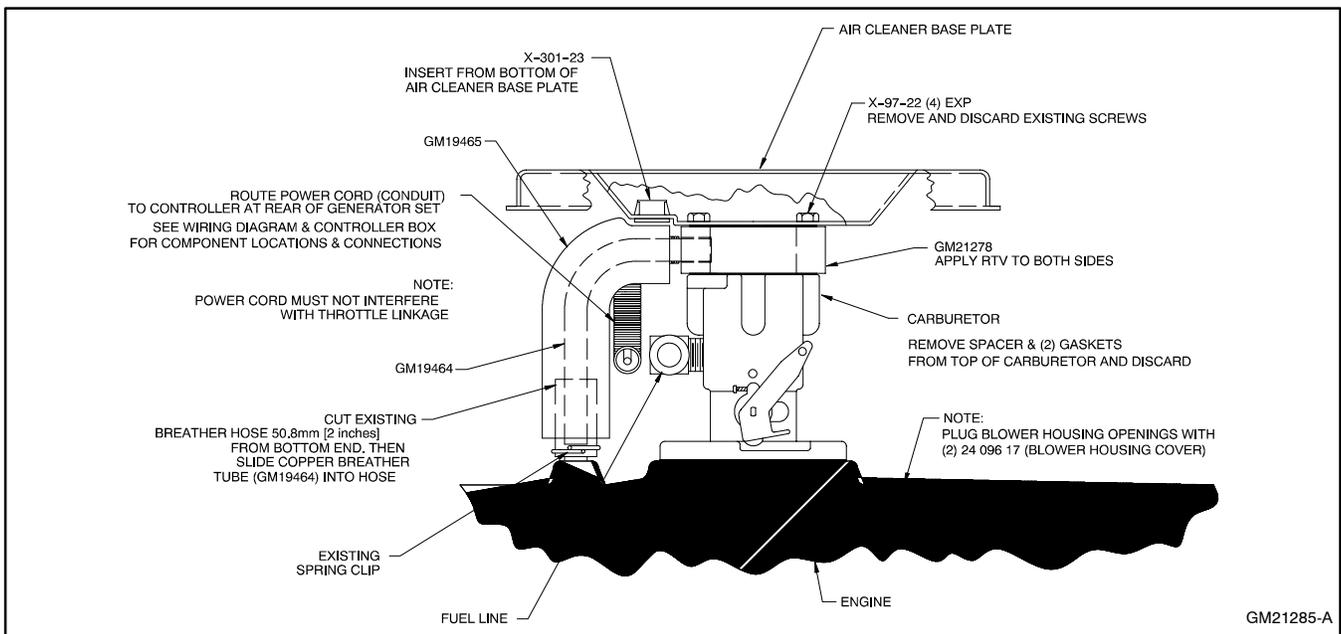
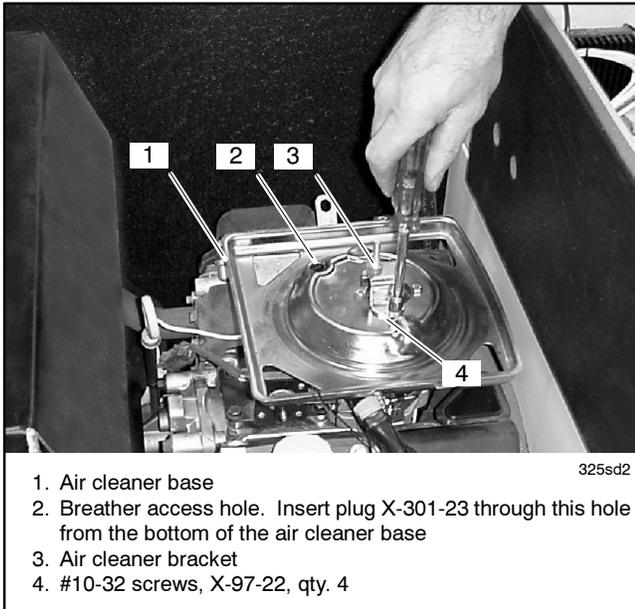

Figure 1 Heater Assembly
Figure 15 Air Cleaner Bracket and Screws
Figure 1 shows the heater installed on the carburetor.
1. Plug the breather access hole in the air cleaner base plate with plug X-301-23. Insert the plug from the bottom of the base plate. See Figure 1 and Figure 15.
3. Place the air cleaner bracket on the air cleaner base. Apply a thread-locking adhesive such as Loctite® 222, 243, or equivalent to the threads of the four #10-32 x 1 1/4 in. screws, X-97-22, provided with the kit. Insert the screws through the air cleaner base, bracket, and heater and into the threaded holes in the carburetor. See Figure 15.